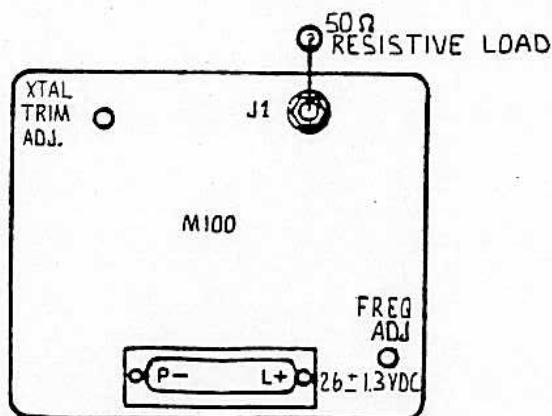

Figure 5.5. Crystal Trim Adjustment Location.
- 5.13.1.7 Refer to Figure 5.5 to locate the UUT crystal trim adjustment (C5).